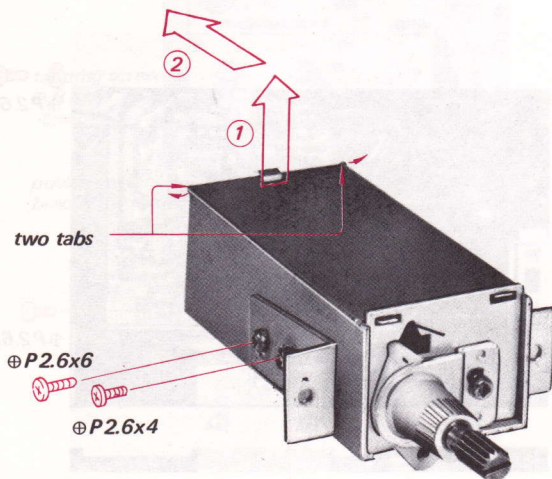

Fig. 2-21
3. Remove the two screws and straighten the two tabs shown in Fig. 2-21.
4. Take out the shield cover in the direction shown by the arrow ① and ②